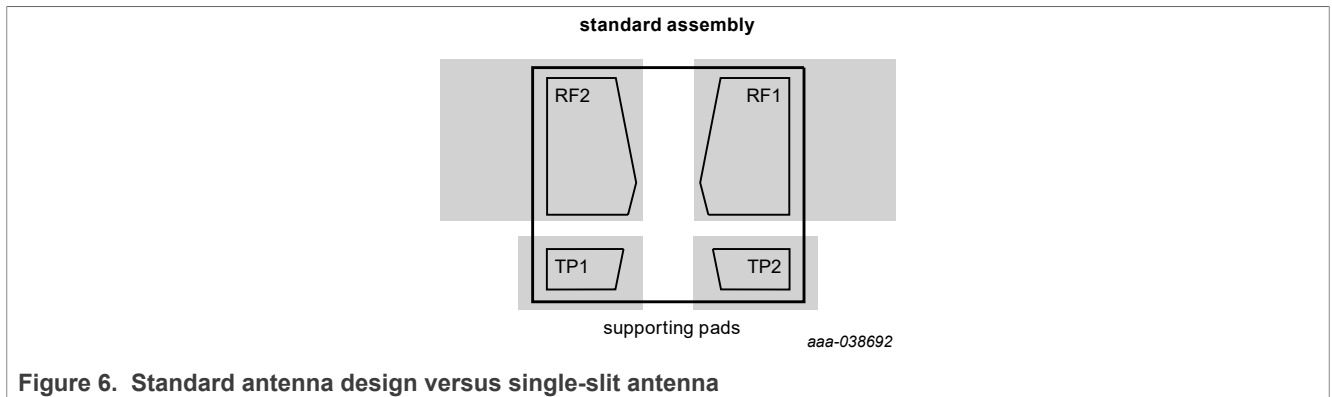
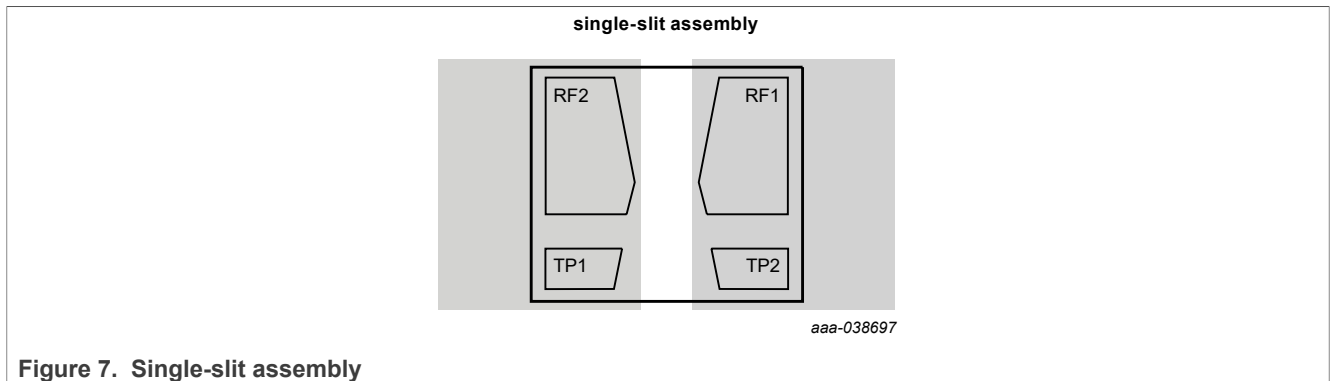

Figure 6. Standard antenna design versus single-slit antenna
Figure 7. Single-slit assembly
In UCODE 9xm, the test pads TP1 and TP2 can be safely short-circuited to the RF pads (RF1, RF2). See Figure 6 and Figure 7.
- [6] see Figure 7
- [9] see Figure 6